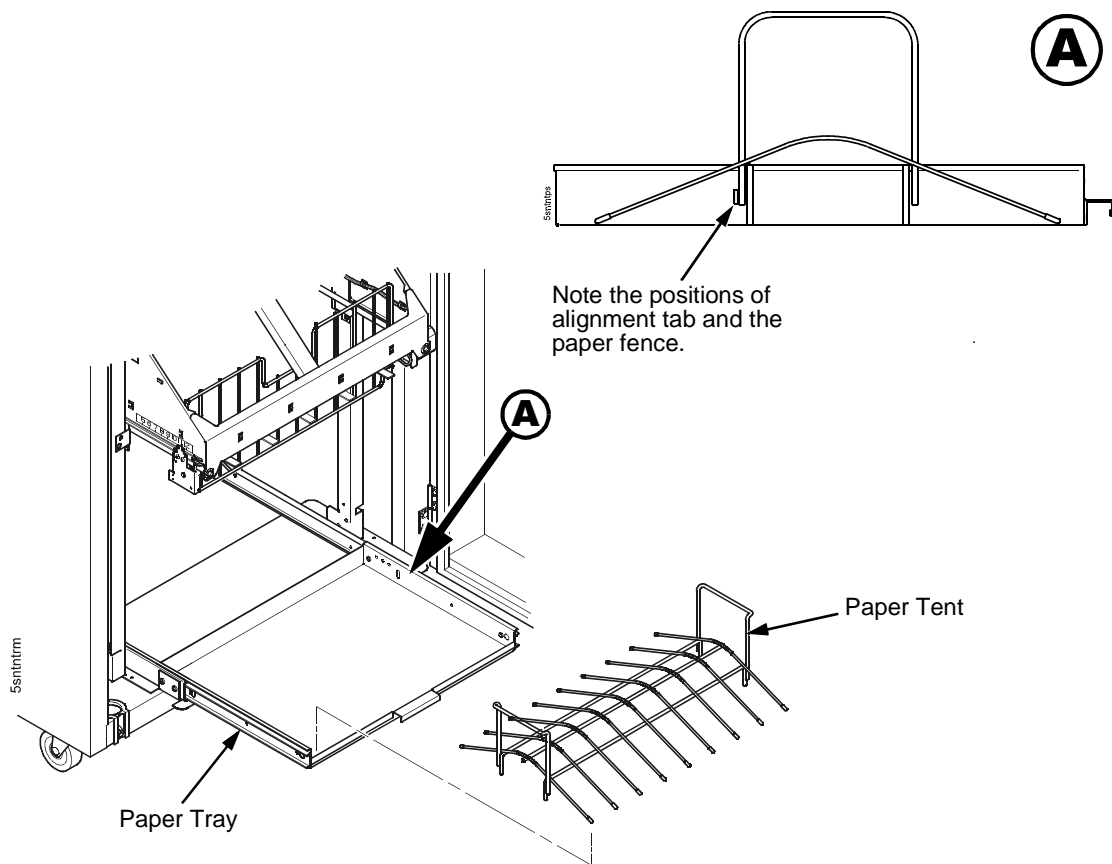

Figure 60. The Paper Tent
4. If the paper you will use is no wider than 15.5 inches (39.5 cm) install the wire paper tent in the pull out paper tray in the base of the stacker. If the paper is wider than 15.5 inches (39.5 cm) leave the paper tent out of the printer. (Figure 60.)